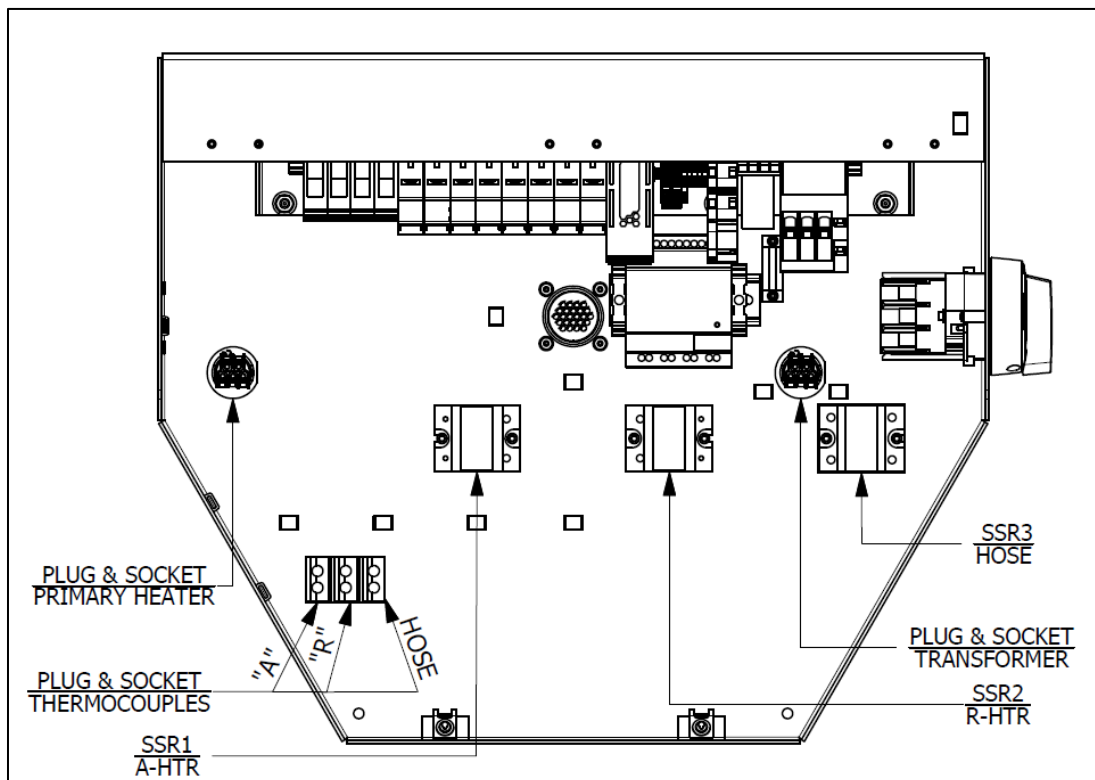

Figure 19: PF(X)-1600 Plug and Socket, Solid-State Relay (SSR) Locations
2. Check that the Primary Heater Plug and Socket Connection (see Figure 19 on page 37) is securely fastened. If the Connection is loose, the Connection should “click” when the Plug is inserted into the Socket.
5. Open the console top by unscrewing the two Quick-Release screws on the front of the console and locate the two Solid-State Relays (SSRs) for the Primary Heater, see Figure 19 on page 37. The first SSR from left to right is for the “A” Side Heater and the second is for the “R” Side Heater. With the heater ON, look to see if an LED light is lit on **the relay**.
1. Remove the left side Cover and check the purple Thermocouple Plug and Socket Connection (see Figure 19 on page 37) on the bottom left of the console and ensure that the Plug is secured firmly within the Socket. The Plug will only fit in the Socket in one direction.
1. Set the controller set point at least 20 degrees lower than the temperature shown on the controller. Briefly turn on the heater and look for the LED light on the Solid-State Relay (SSR) for the Primary Heater to be on, see Figure 19 on page 37.
2. Check that the Hose Heater Plug and Socket Connection is securely fastened (see Figure 19 on page 37). If the Connection is loose, the Connection should “click” when the Plug is inserted into the Socket.
9. Open the Console and locate the Solid-State Relay for the hose circuit (Figure 19, page 37). With the hose turned on and the LED light illuminated on the relay, take a volt meter (set on DC) and measure across position A1 and A2; your reading should be **24 Volts DC**. Then take an AC volts measurement across position L1 and L2 (larger wires). With the relay functioning properly you should have a 1 volt reading. If the Reading is **18 to 90 volts AC**, the relay has malfunctioned and needs to be replaced. If the AC Reading across L1 and L2 is **.025 Volts AC** check the over temperature switches in the heaters. A defective over temperature switch will open the M1 Contactor disabling both Heaters and the Hose.
1. Set the controller set point at least 20 degrees lower than the temperature shown on the controller. Briefly turn on the hose and look for the LED light on the Solid-State Relay (SSR) for the Hose Heater to be on, see Figure 19 on page 37.